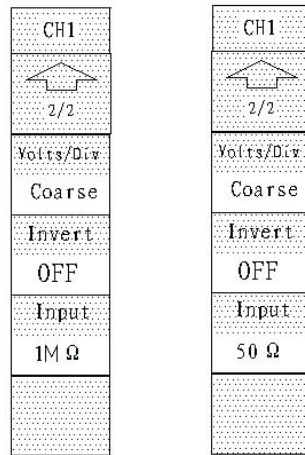

Figure 2-5
Volts/DIV setting sees Fig.2-5
(1) Select input impedance, see Fig.2-5